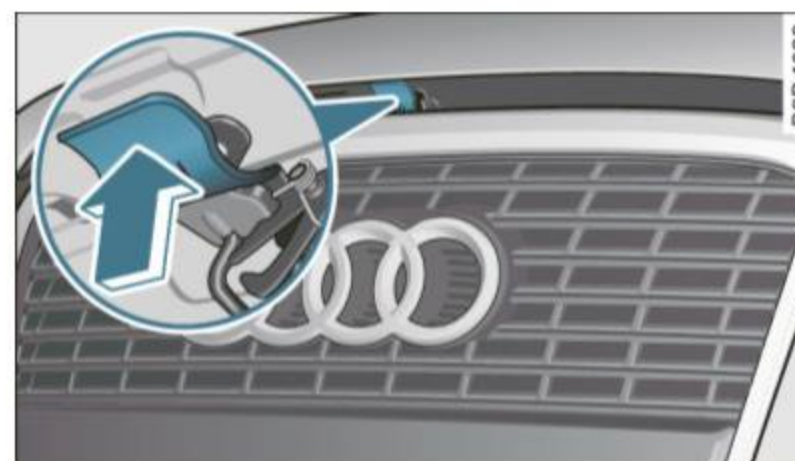

Fig. 183 Engine hood release lever
- Pull the release lever ⇒ fig. 183 in the direction indicated by the arrow. This releases the hook under the hood.